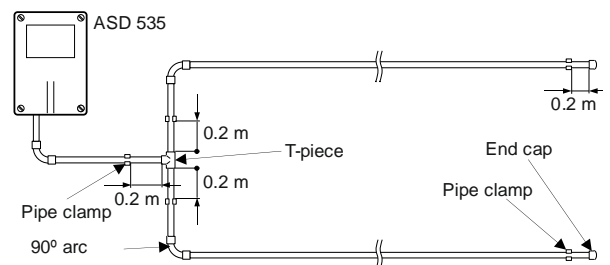

Fig. 9 90° bend, branching point
- Beginning at the branching points of the sampling pipe, a distance of at least 0.2 m must be maintained from the T-piece to the pipe clamps, **Fig. 9**.
- For changes of direction in space surveillance installations, it is advisable to use 90° bends rather than 90° angles, **Fig. 9**.